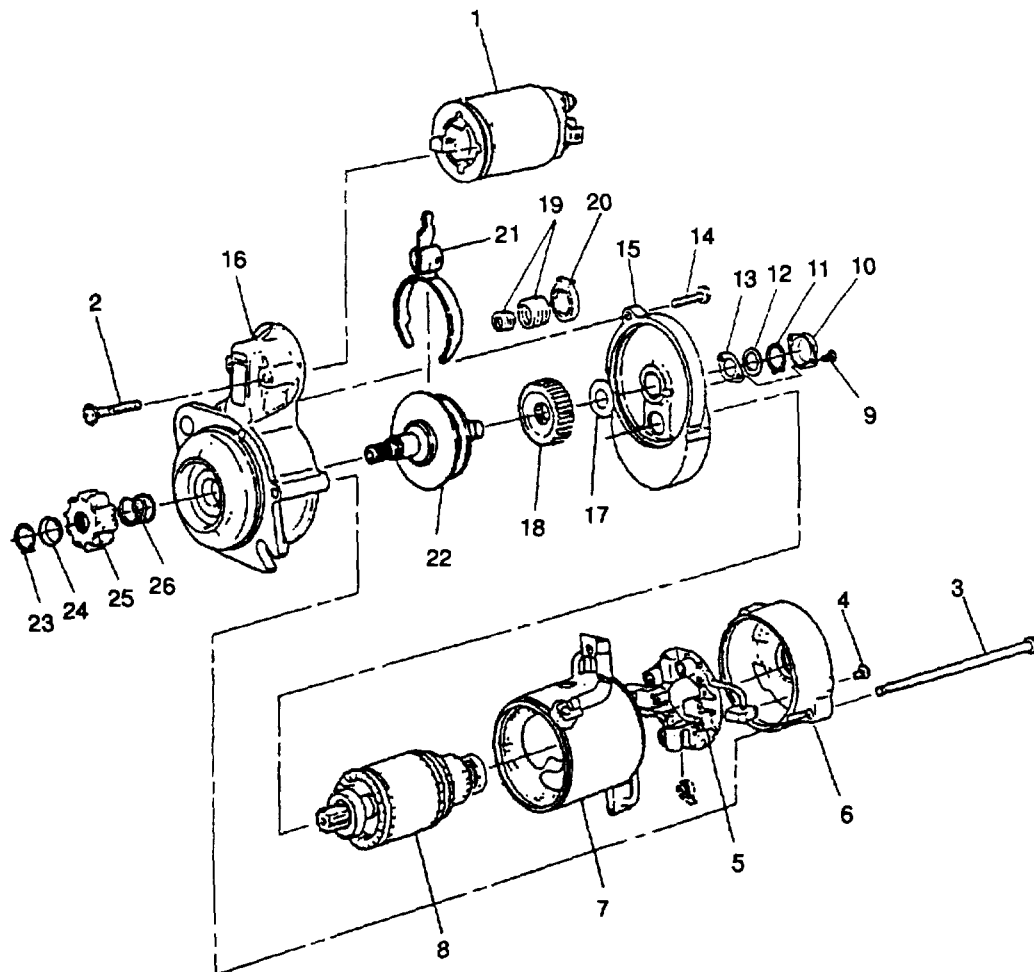

FIGURE 3-22. Starter Assembly
- a. Tag and disconnect wire from solenoid (1, FIGURE 3-22).
- b. Remove two screws (2) securing solenoid (1); remove solenoid.
- c. Remove two through bolts (3).
- d. Remove screws (4) securing brush holder assembly (5) to rear bracket (6) and remove rear bracket.
- e. Remove brush holder assembly (5) and frame assembly (7).
- f. Using a screwdriver, pull brushes upward and remove brush holder assembly (5) from frame assembly (7).
- g. Remove armature (8).
- h. Remove screws (9) and remove cover (10).
- i. Remove retaining ring (11), washer (12), and gasket (13) from shaft.
- (1) Armature (8, FIGURE 3-22) shaft gear.
- (2) Gear (18).
- (3) Armature shaft bearings.
- (4) Stopper (24).
- (5) Sleeve bearing in front bracket (16).
- (6) Pinion gear (25).
- (7) Lever (21) sliding portion.
- (8) Solenoid (1) plunger.
- b. Position overrunning clutch (22) into front bracket (16).
- c. Install spring (26) and pinion gear (25) on overrunning clutch shaft.
- d. Slide stopper (24) onto shaft and install new retaining ring (23) in groove. Stopper (24) must fully engage retaining ring when installed.